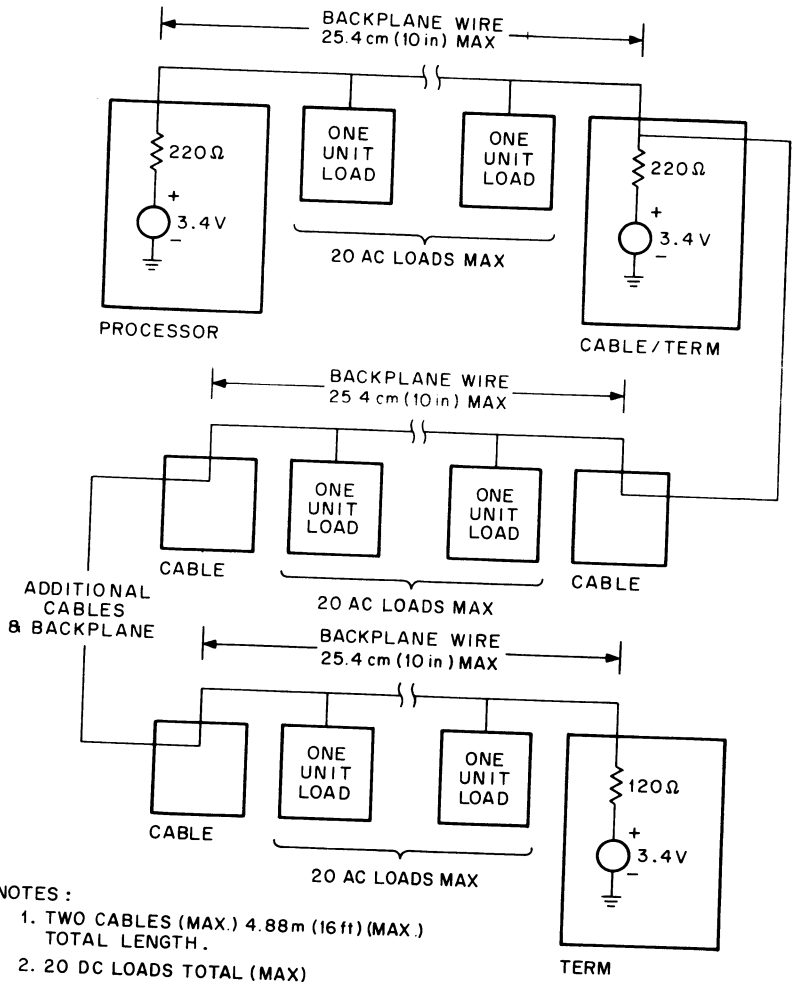

Figure 9-16 Multiple Backplane Configuration
- As illustrated in Figure 9-16, up to three backplanes may make up the system.